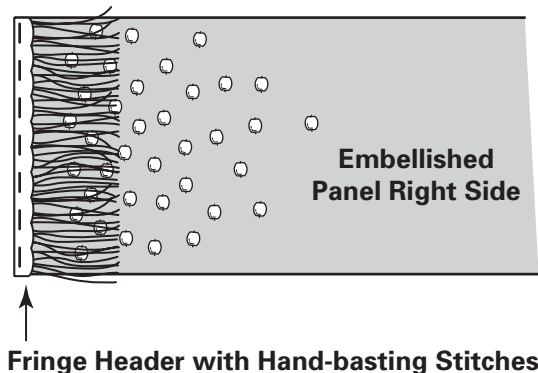

Fig. 8-2
3. Cut two, 5-inch (12.5-cm) lengths of fringe. For each end of the scarf front, baste the fringe header to the right side, with the header edge even with the scarf short edge. (Fig. 8-2)